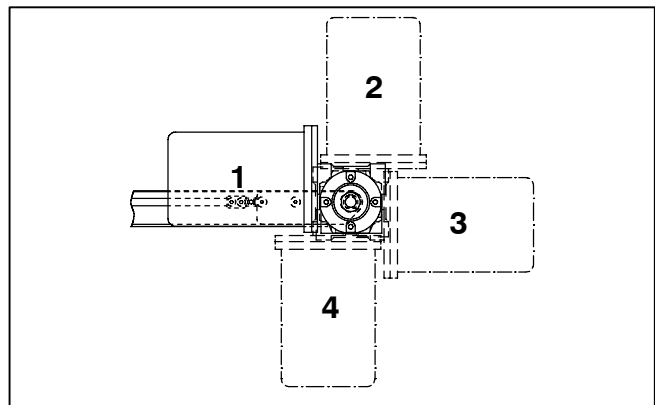

Figure 3
**NOTE:** Gearmotor may be operated in positions 1, 2, 3 or 4 (Figure 3).
2. If required, change gearmotor position by removing four (4) screws (I of Figure 4). Rotate gearmotor to other position (Figure 3) and replace screws (I). Tighten to 12 Nm.